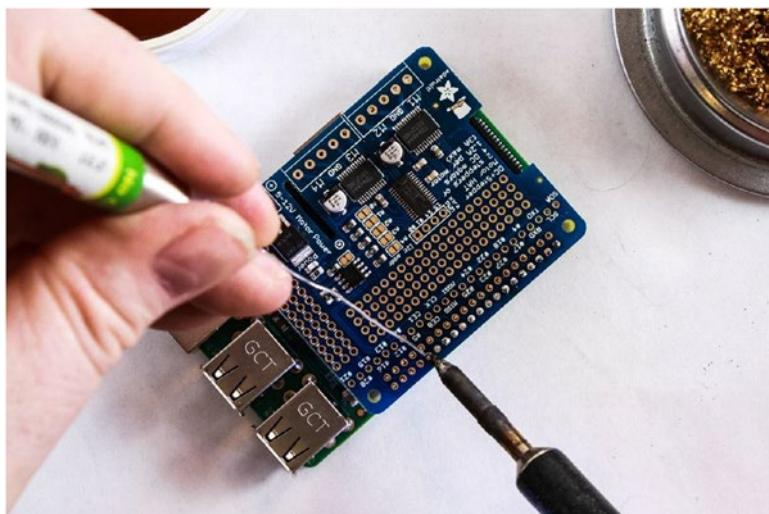

Figure 6-9. Solder the first row of pins
5. Solder the rest of the first row (see Figure 6-9).